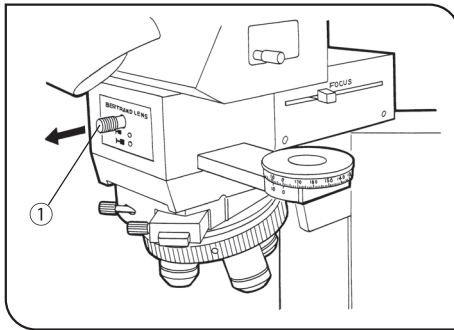

Fig. 23
1. Pull out the Bertrand lens knob ① to the pulled-out (O) position. (Fig. 23)